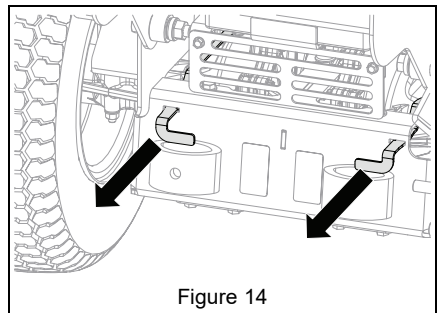

Figure 14
3. Pull both transaxle bypass levers out into bypass position. See Figure 14.